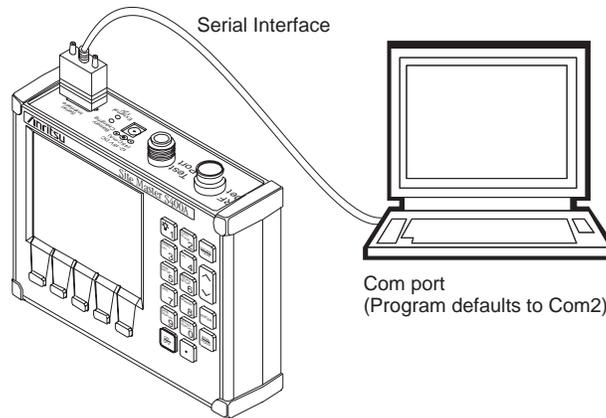

Figure 4-3. Equipment Setup for Site Master Tools Operation
- Step 1.** Connect the supplied cable as shown in Figure 4-3.